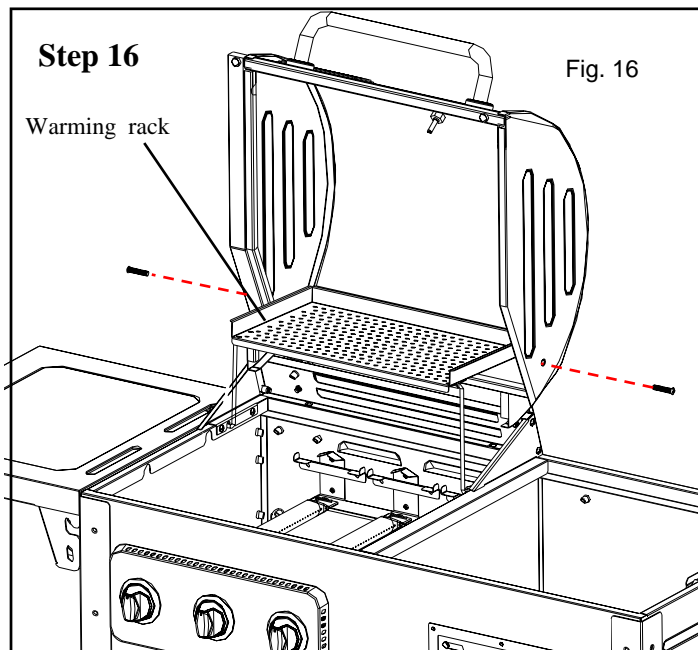

Fig. 16
Refer to Fig. 16, attach the back of the Warming Rack to the gas grill lid with (2) M6*35 Bolts as shown. Insert the Front Wire Legs into the holes on each side of the Grill. Open and close the Lid to be certain the Warming Rack moves smoothly.